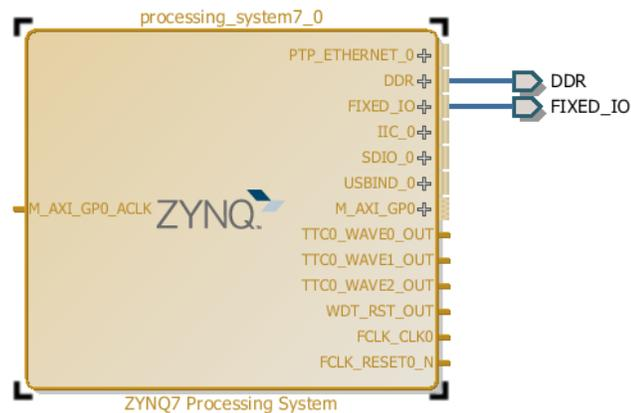

Figure 4: Starting Block Design
- o My ZYNQ block has M AXI GP0 interface, Timer 0, Watchdog, and FCLK_CLK0 enabled and had block automation run. See Figure 4 below for my block diagram's starting point.